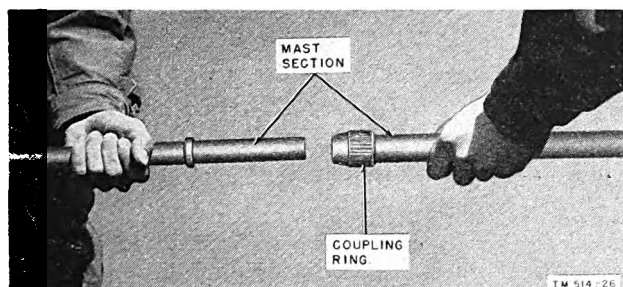

Figure 32. Assembling mast sections.
- (1) *Removal from chests.* Remove the required antenna mast sections (par. 19) from Chests CY-361/CRD-2 and CY-360/CRD-2. Remove the antenna skirts from Chest CY-359/CRD-2.
- (2) *Antenna masts.* Assemble four complete antenna masts by fitting together the number of sections to be used (par. 19). Tighten the coupling rings with the small strap wrench in Chest CY-363/CRD-2. In fitting antenna sections together, be sure that collars on the inserted sections are flush with coupling rings (fig. 32). Keep threaded ends of antenna mast sections free of sand or dirt.
- (3) *Antenna skirts.*